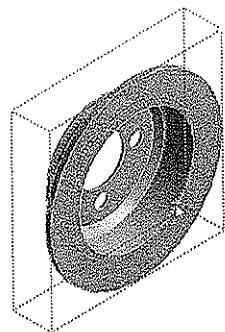

Figure 11-16 Body selected
- 4. Choose the **Body** tool from the **Select** toolbar and then select the model, as shown in Figure 11-16.
16. Choose the **Body** tool from the **Select** toolbar and then select the model, refer to Figure 11-16.